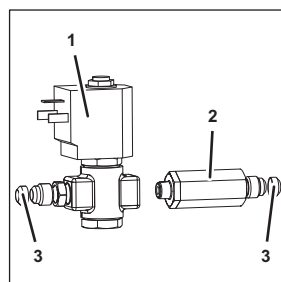

Figure 95
4. Disconnect the non-return valve (Figure 95/2) from the solenoid valve (Figure 95/1).
5. Attach the new solenoid valve (Figure 95/1) to the non-return valve (Figure 95/2).
6. Check the seals (Figure 95/3) for damage. Replace any damaged seals (Figure 95/3).
7. Apply Loctite to the solenoid valve (Figure 95/1) and to the non-return valve (Figure 95/2).
8. Position the solenoid valve (Figure 95/1) with non-return valve (Figure 95/2) within the unit.